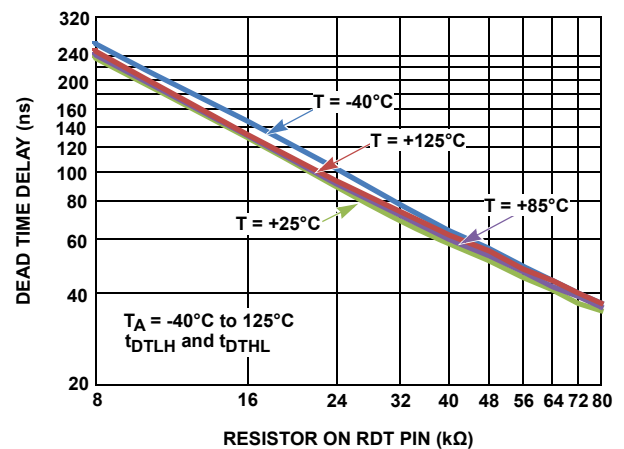

FIGURE 10. DEAD-TIME DELAY VS RDT RESISTOR
When the PWM input transitions high or low, it is necessary to ensure that both bridge FETs are not on at the same time to prevent shoot-through currents. The ISL78420 programmable timers delay the rising edge of the high-side (HO) and low-side (LO) gate drives so that both FETs are off before one of them is turned on. The dead-time delay on the rising edge of LO and HO is programmable with a single resistor from the RDT pin to V_{SS} . The dead time is adjustable from 35ns ($R_{RDT} = 80k\Omega$) to 220ns ($R_{RDT} = 8k\Omega$). It is not recommended to use resistors beyond these values. The dead time is set equal on both falling edges of LO and HO. See "Timing Diagram" on page 6 for the definition of dead-time delay. See Figure 10 on page 7 for the programmed dead time vs resistor value.